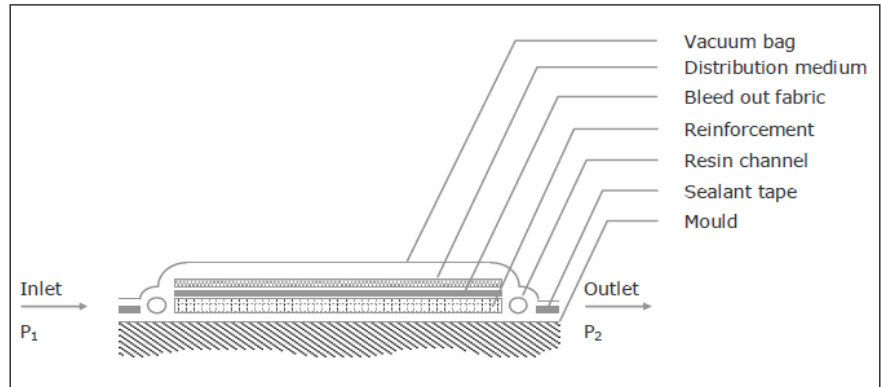

Figure 1. Vacuum infusion mould lay-up, p_1 =inlet pressure, p_2 =outlet pressure [6]
Vacuum infusion (VI) is a widely used moulding process for the production of large composite structures. Its popularity is partly due to the low cost of the tooling and the environmental safety [6]. In addition, low operator involvement increases the repeatability of the process compared to open mould techniques, such as hand lay-up or spray-up, and the components are of relatively high fibre content, up to 60 % of the volume. On the other hand, the complex preparation procedure of VI could easily lead to defects, such as air voids, because of not sufficiently sealed spots. The VI mould lay-up is shown in *Figure 1*.